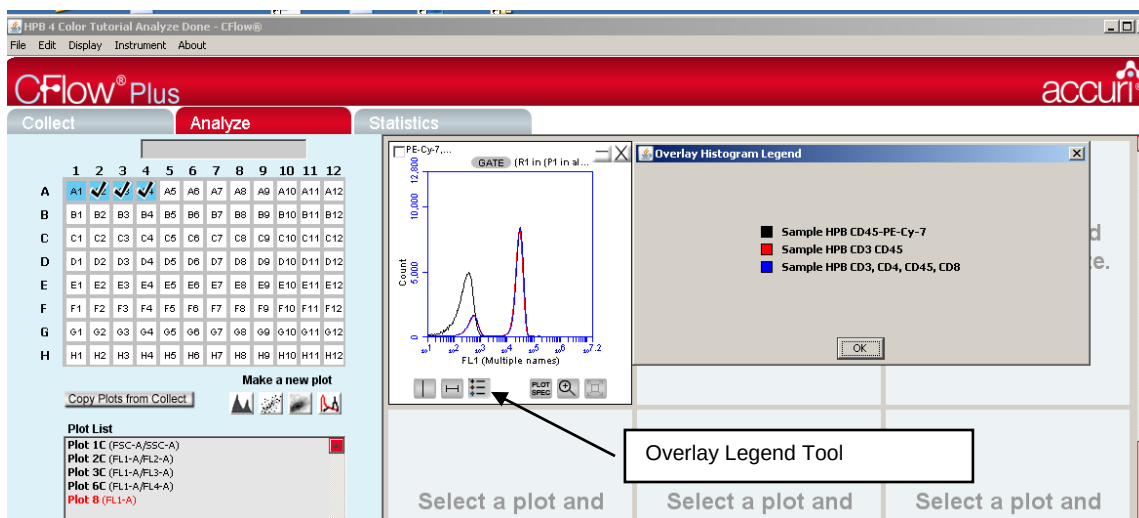

Figure 4-11 Analyze tab: Overlays of FL1-A data for samples A2, A3 and A4. The Overlay Legend has been opened.
5. Select the data wells from the 96-well grid to be overlaid. Choose samples A2, A3 and A4 if using the HPB 4 Color file (Figure 4-11).
6. Selecting the Overlay Histogram Legend Tool opens the dialog box shown in Figure 4-11.